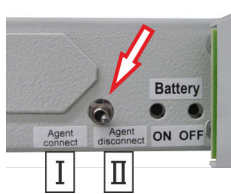

Fig. 42: Blocking switch
- Block all networked systems using the blocking switch (Fig. 42/arrow) (switch the blocking switch to "Agent disconnect [blocked]" (Fig. 42/ II)) prior to performing maintenance work.